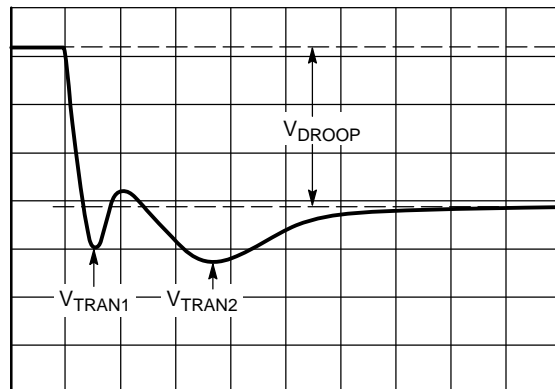

Figure 29. Transient Setting Waveform, Load Step
15. Users should see a waveform that similar to the one in Figure 29. Use the horizontal cursors to measure V_{ACDRP} and V_{DCDRP} as shown. Do not measure the undershoot or overshoot that occurs immediately after the step.
19. With dynamic load still set at the maximum step size, expand the scope time scale to see 2 μ s/div to 5 μ s/div. A waveform that has two overshoots and one minor undershoot can result (see Figure 29). Here, V_{DROOP} is the final desired value.